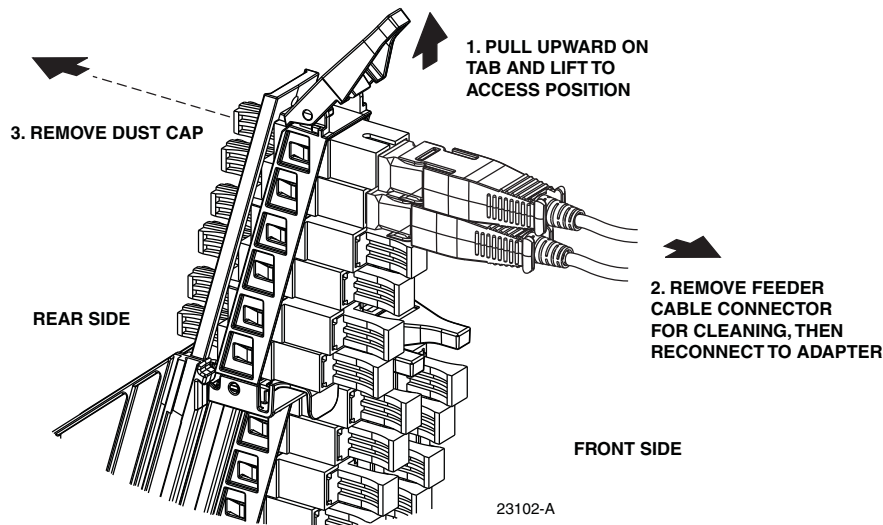

Figure 51. Typical Adapter Pack Raised to Access Position
2. Pull upward on the small tab on top of the adapter pack and lift the adapter pack to the position shown in Figure 51
3. Pull upward on the small tab on top of the adapter pack and lift the adapter pack to the position shown in Figure 51.